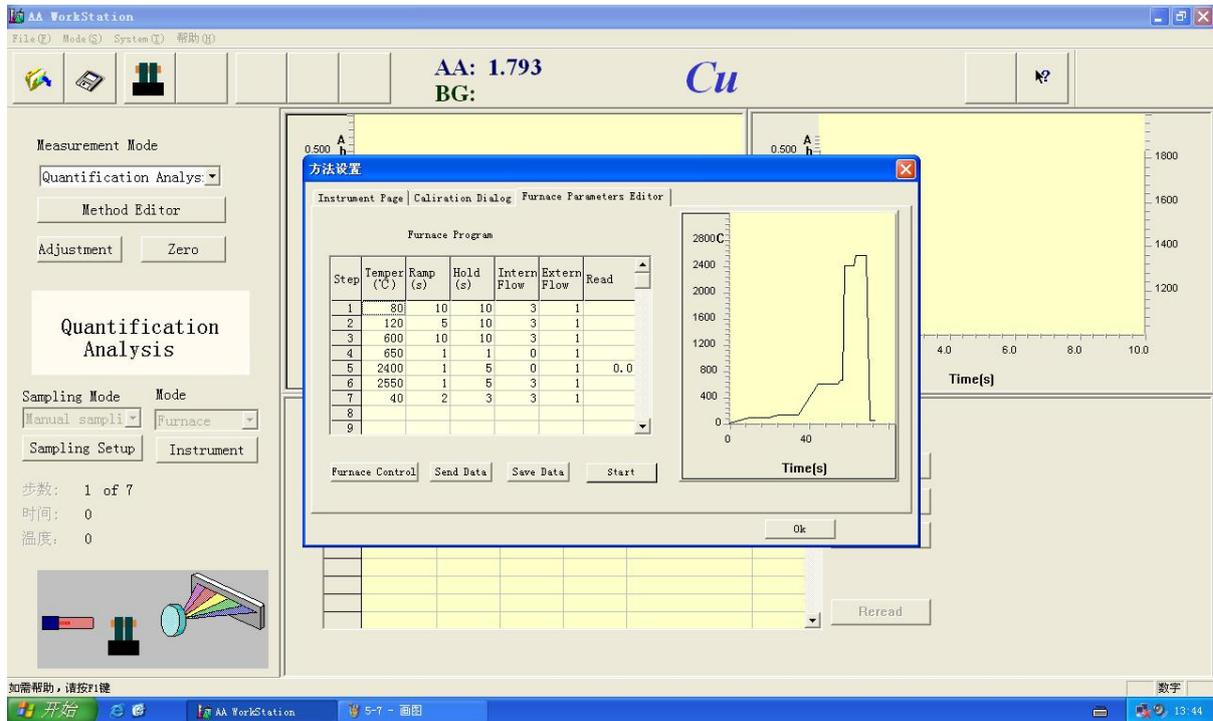

Figure 5-21
10. By analogy, input the corresponding program as shown in figure 5-21 (Note: at most 19 can be input)